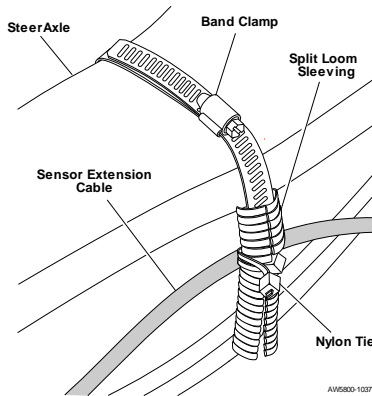

Figure 18. Securing the Sensor Extension Cable
5. Routing the sensor cable: Run the drive sensor extension cable along the rear of the axle towards the side of the truck (driver's side or passenger's side), securing with a band clamp (P/N: 139-0016-000). Place split loom (P/N: 380-0004-001) over the band clamp where it crosses over the cable. Secure the cable to the band clamp with nylon ties (P/N: 145-4552-001). See Figure 18. Use additional 24" nylon ties (P/N: 145-0007-000) as required to secure the cable to the steer axle.